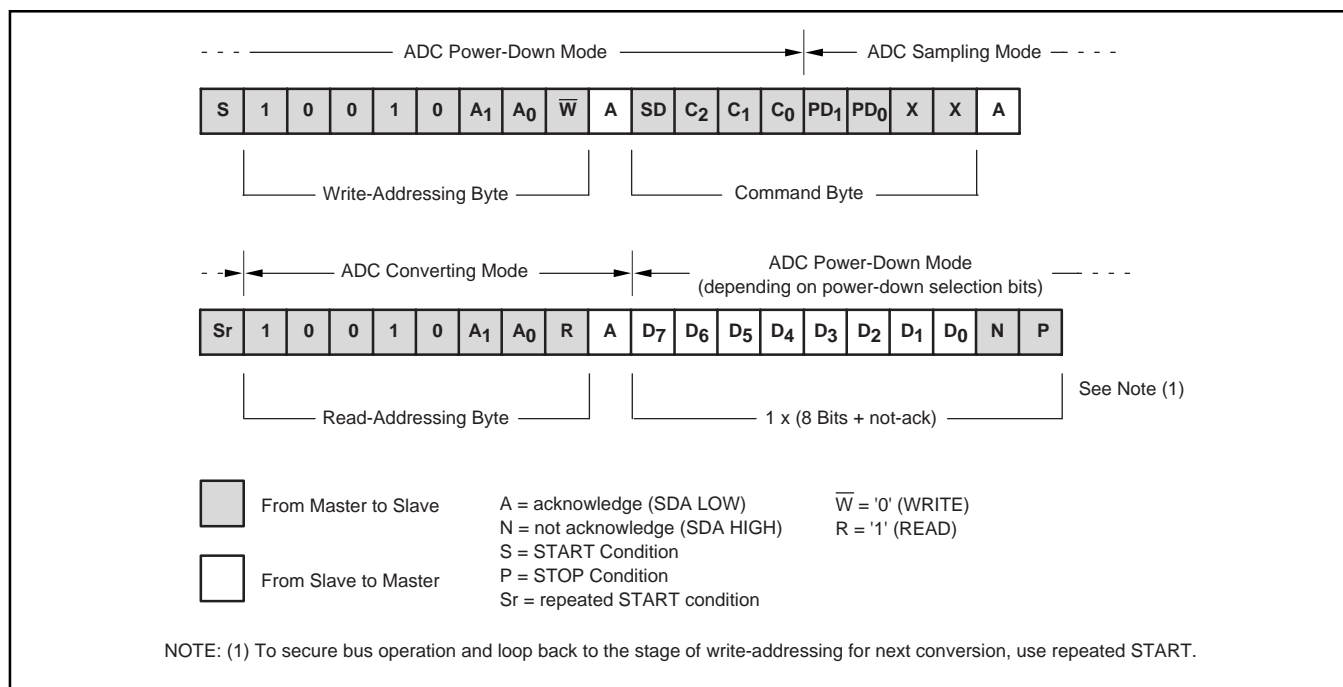
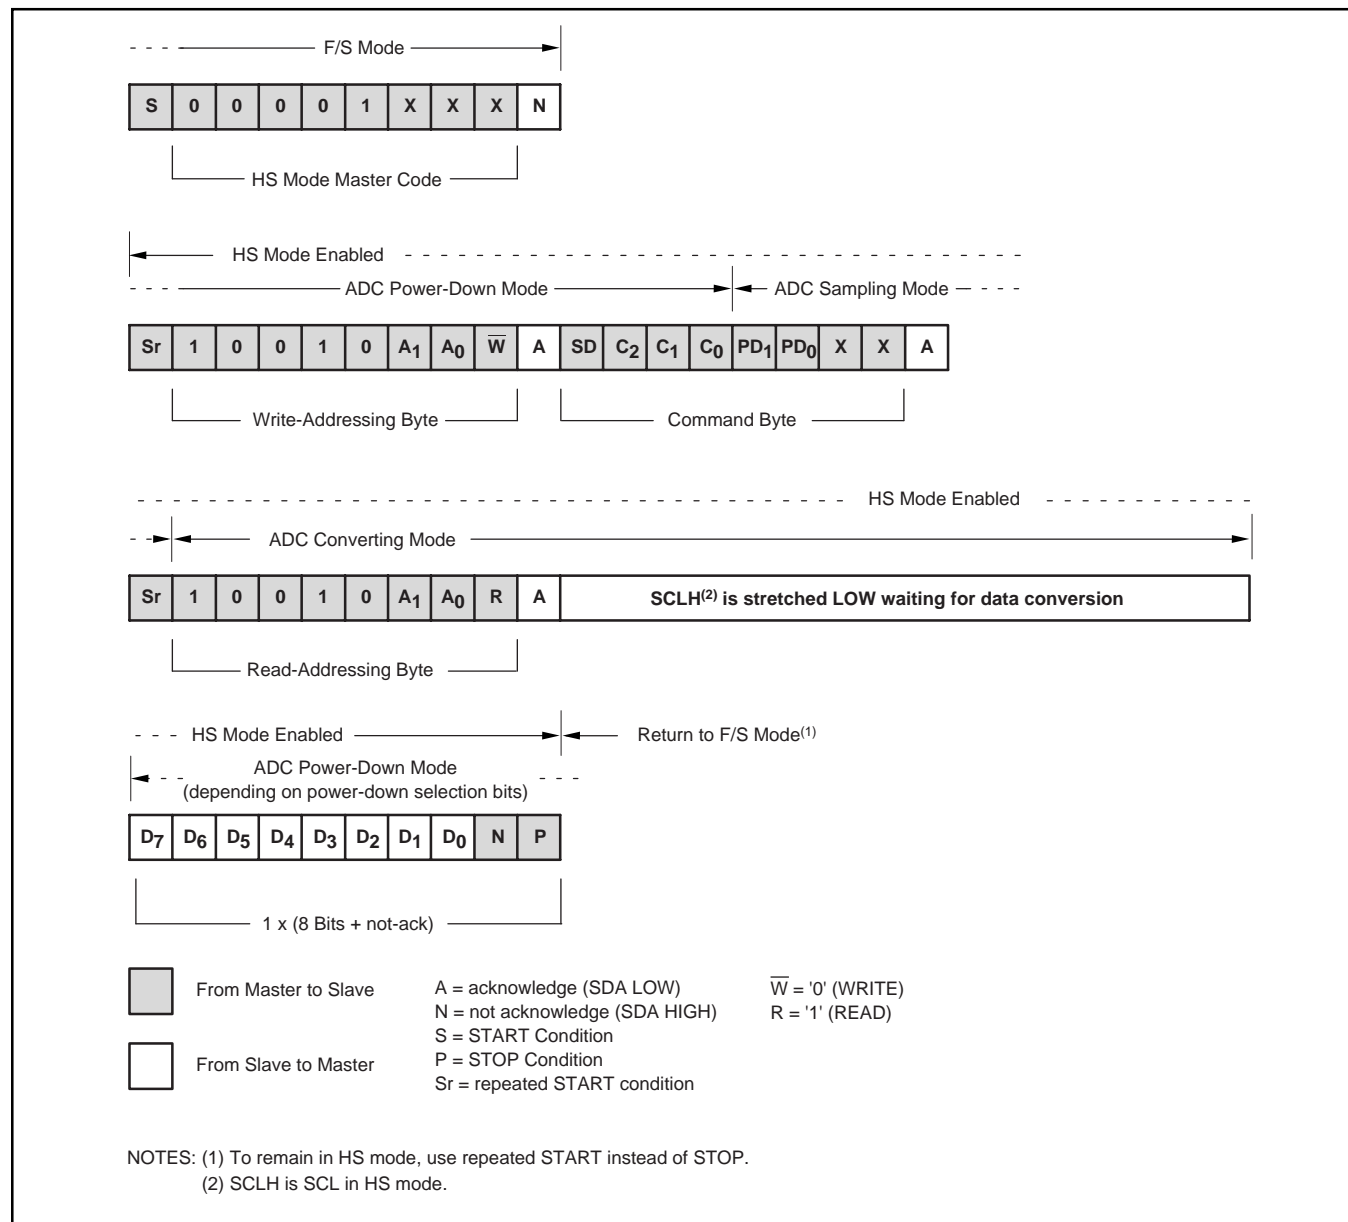

FIGURE 3. Typical Read Sequence in F/S Mode.
FIGURE 4. Typical Read Sequence in HS Mode.
Figure 3 describes the interaction between the master and the slave ADS7830 in Fast or Standard (F/S) mode. At the end of reading conversion data the ADS7830 can be issued a repeated START condition by the master to secure bus operation for subsequent conversions of the A/D converter. This would be the most efficient way to perform continuous conversions.
See Figure 4 for a typical read sequence for HS mode. Included in the read sequence is the shift from F/S to HS modes. It may be desirable to remain in HS mode after reading a conversion; to do this, issue a repeated START instead of a STOP at the end of the read sequence, since a STOP causes the part to return to F/S mode.
- 1) In order to use the internal reference, the PD1 bit of Command Byte must always be set to logic '1' for each sample conversion that is issued by the sequence, as shown in Figure 3.
If using an external reference, PD1 must be set to '0', and the external reference must be settled. The typical sequence in Figure 3 or Figure 4 can then be used.